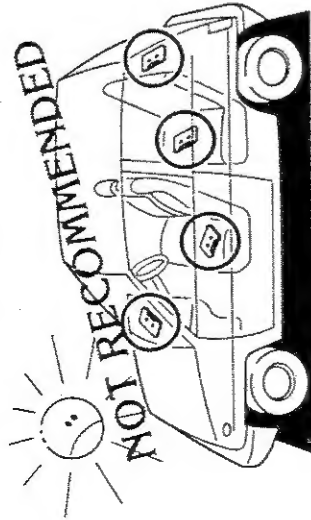

Fig. 22
- Storing cassettes in areas directly exposed to sunlight or high temperatures can distort them and subsequently interfere with tape transport. (Fig. 22)